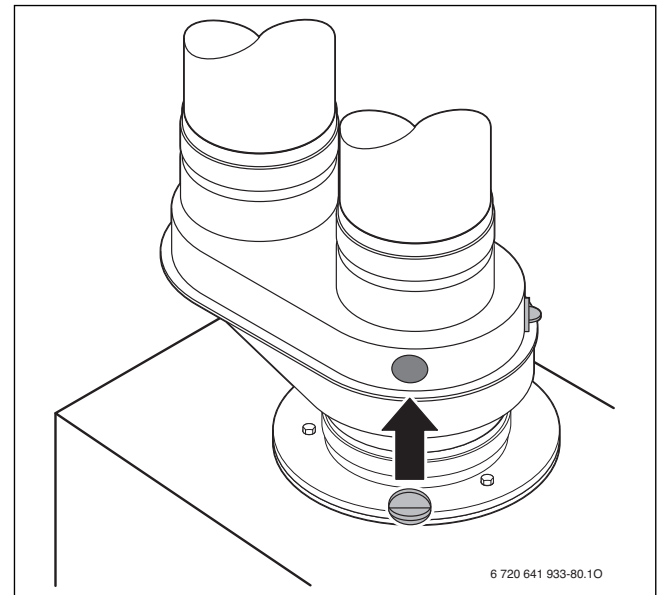

Fig. 80 Close flue gas test ports
- ▶ Remove flue gas probe and close the flue gas test port properly (→ Fig. 80).